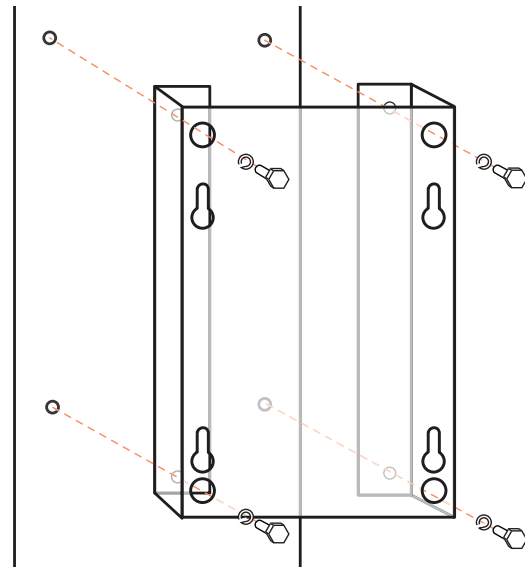

fig.14 - Bracket removal/attachment
1. Remove the upper of the two mounting brackets from the rear of the loudspeaker by undoing the M8 x 16 hex-head screws securing it (see fig.14).